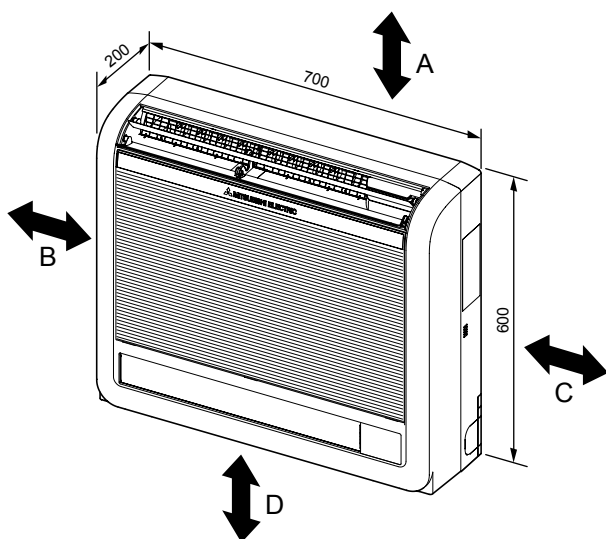

Fig. 2-1
2.1. Outline dimensions (Indoor unit) (Fig. 2-1)